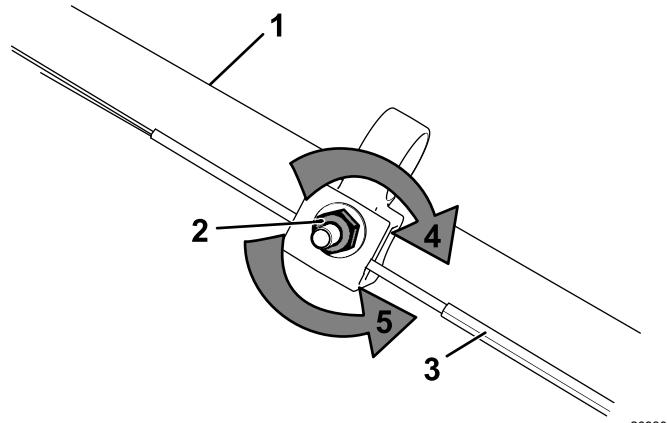

Figure 28
1. Turn the adjustment nut counterclockwise to loosen the cable adjustment (Figure 28).
2. Adjust the tension on the cable (Figure 28) by pulling it back or pushing it forward and holding that position.